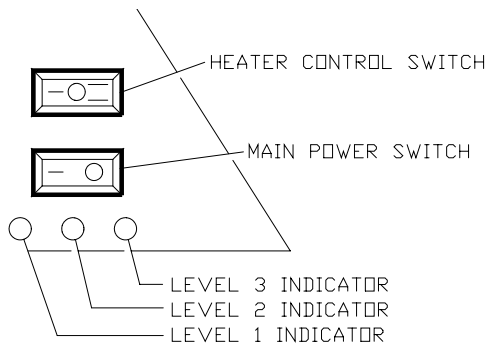

FIGURE 3
3. Locate manual controls refer to FIGURE 3.
The fireplace can also be controlled in a similar manner to the remote control with switches located on the fireplace (FIGURE 3).
The heater on this fireplace is protected with a safety device to prevent overheating. Should the heater overheat, an automatic cut out will turn the heater off and it will not come back on without being reset. It can be reset by switching the Main Power switch (FIGURE 3) to OFF and waiting 5 minutes before switching it to ON. The remote control will need to be re-initialized (see page 2)